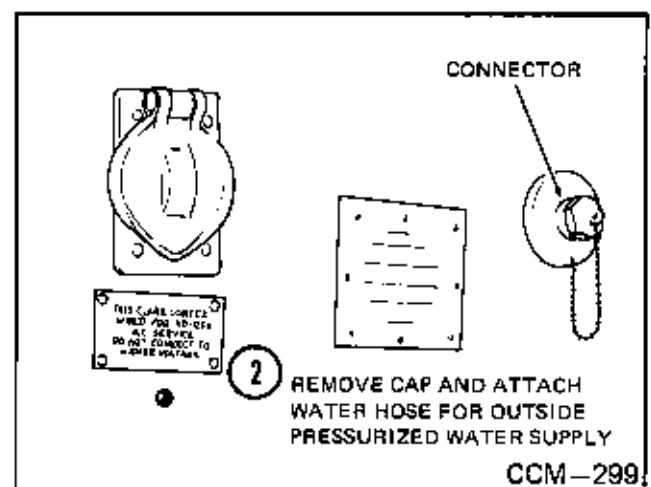

Fig. 16
1. Remove cap from connector. (Item 2, Fig. 16)